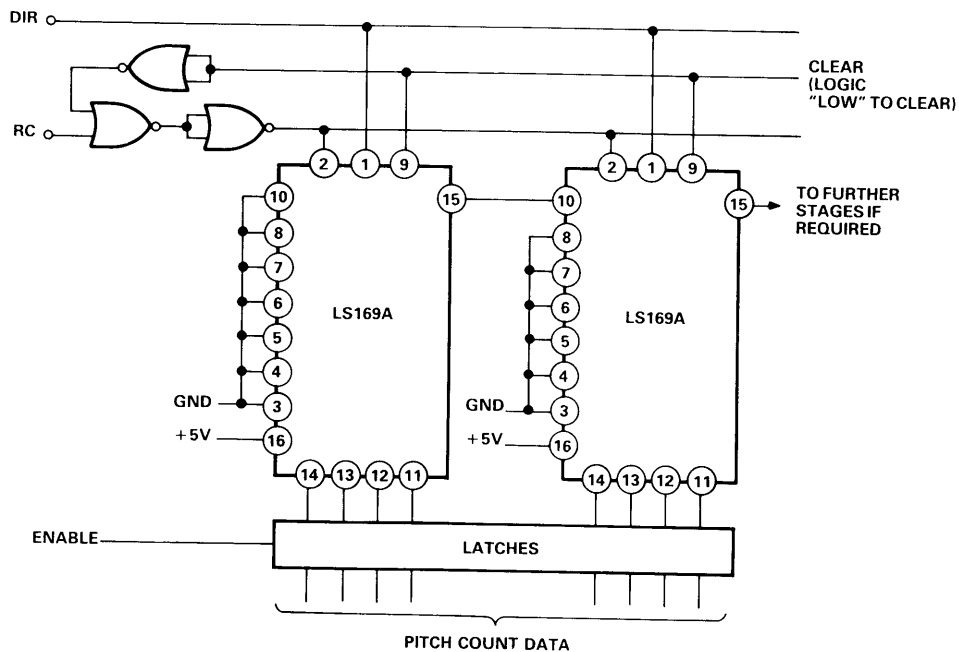

Figure 5. Circuit for Counting Pitches or Revolutions
Applications requiring pitch or revolution counts of the resolver can be easily done using external counters and gates. The input revolutions can be counted by using the RIPPLE CLOCK (RC) and DIRECTION (DIR) logic outputs provided on the AD2S80A/AD2S81A. Figure 5 shows the application circuit that can be used to perform this counting function.
To transfer the data into output latches on the converter, it is recommended in the data sheet that the INHIBIT input should be used. The data is valid  $1\mu\text{s}$  after the application of a logic "low" to the INHIBIT. Hence the output latches used in Figure 5 should be enabled  $1\mu\text{s}$  after the application of a logic "low" to the INHIBIT input. This will ensure that if an active BUSY pulse is present when the INHIBIT is applied it is given time to clear.